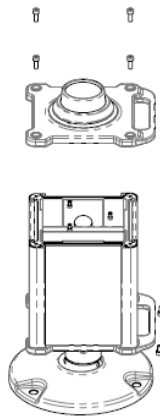

Figure 4-1
1. Turn off the lighting fixture, unscrew four screws on the upper cover of the shell, move out it (Figure 4-1) and loosen the connecting cable relating to the cell from the circuit board;